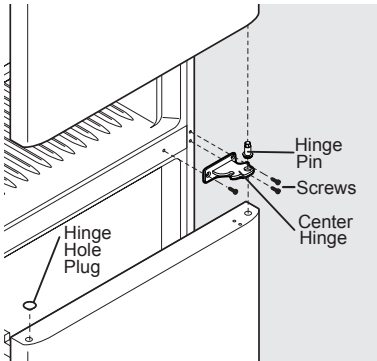

Figure 2
5. Unscrew the center hinge pin using an adjustable wrench and set it aside (see Figure 2).
7. Remove the 3 center hinge screws using a Phillips screwdriver and set the center hinge aside (see Figure 2).